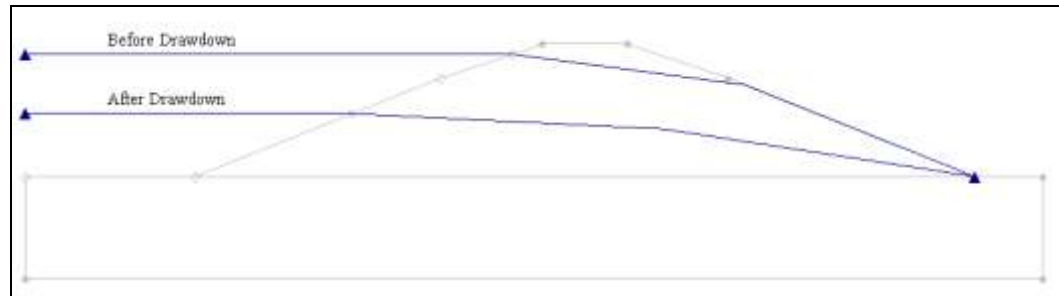

Figure 2 Piezometric lines before and after drawdown
3. Using the **Create Arc**  tool, connect the points to form the “Before Drawdown” arc shown in Figure 2 above.
At this point, the user should have created the two piezometric lines shown in Figure 2 (above) and can turn on the “Profile lines” coverage if it was off.